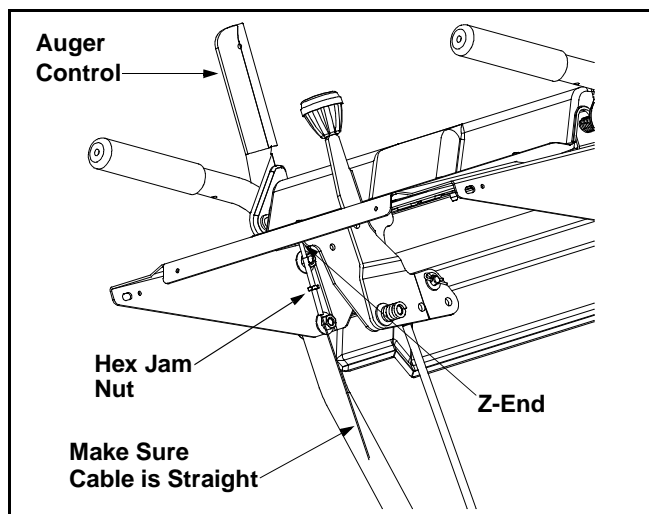

Figure 8
- Thread the cable onto the threaded portion of the Z-end until there is no slack in the cable, making sure cable is straight. Do not overtighten cable. See Figure 8.
- Push forward on the auger control until the small rubber bumper contacts the upper handle. There should be slack in the cable. See Figure 8.
- Loosen the jam nut and thread the cable in (for less slack) or out (for more slack) as necessary. See Figure 8.